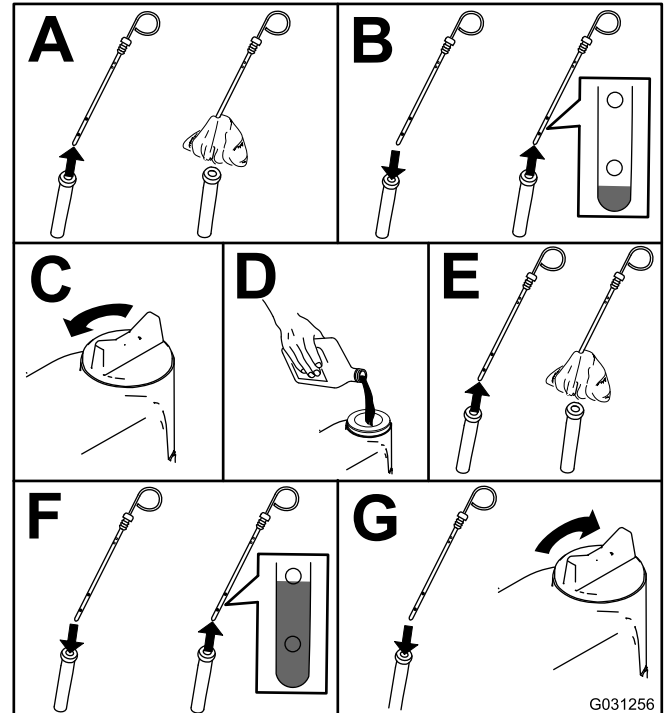

Figure 50
2. Check the engine-oil level; refer to Figure 50.